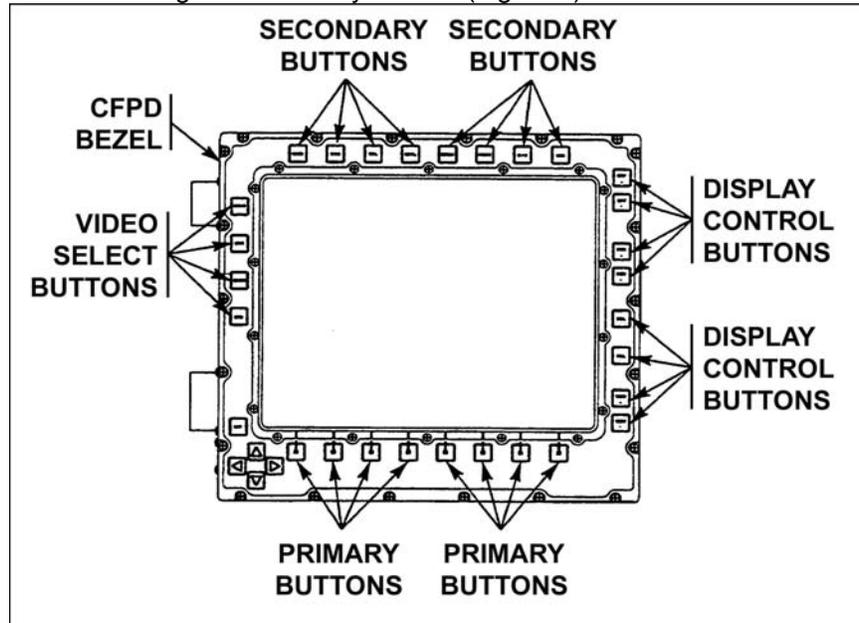

Figure 2. Secondary buttons.
- (c) Repeat steps (1) and/or (2) to achieve the desired viewing angle.
b. Adjust the CTD using the secondary buttons (Figure 2).